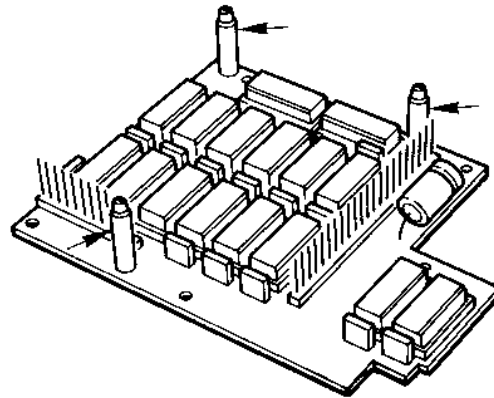

Figure 3-4. 512K RAM Card
2. Three nylon stand-offs are packaged with the RAM card. Insert them into corresponding holes of the RAM card (Figure 3-4).